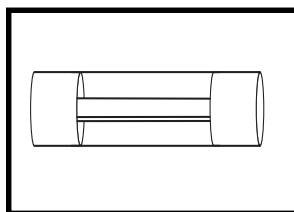

Figure 10. Working Fuse
4. Examine the fuse to be sure it is blown. **See figures 10 and 11.**